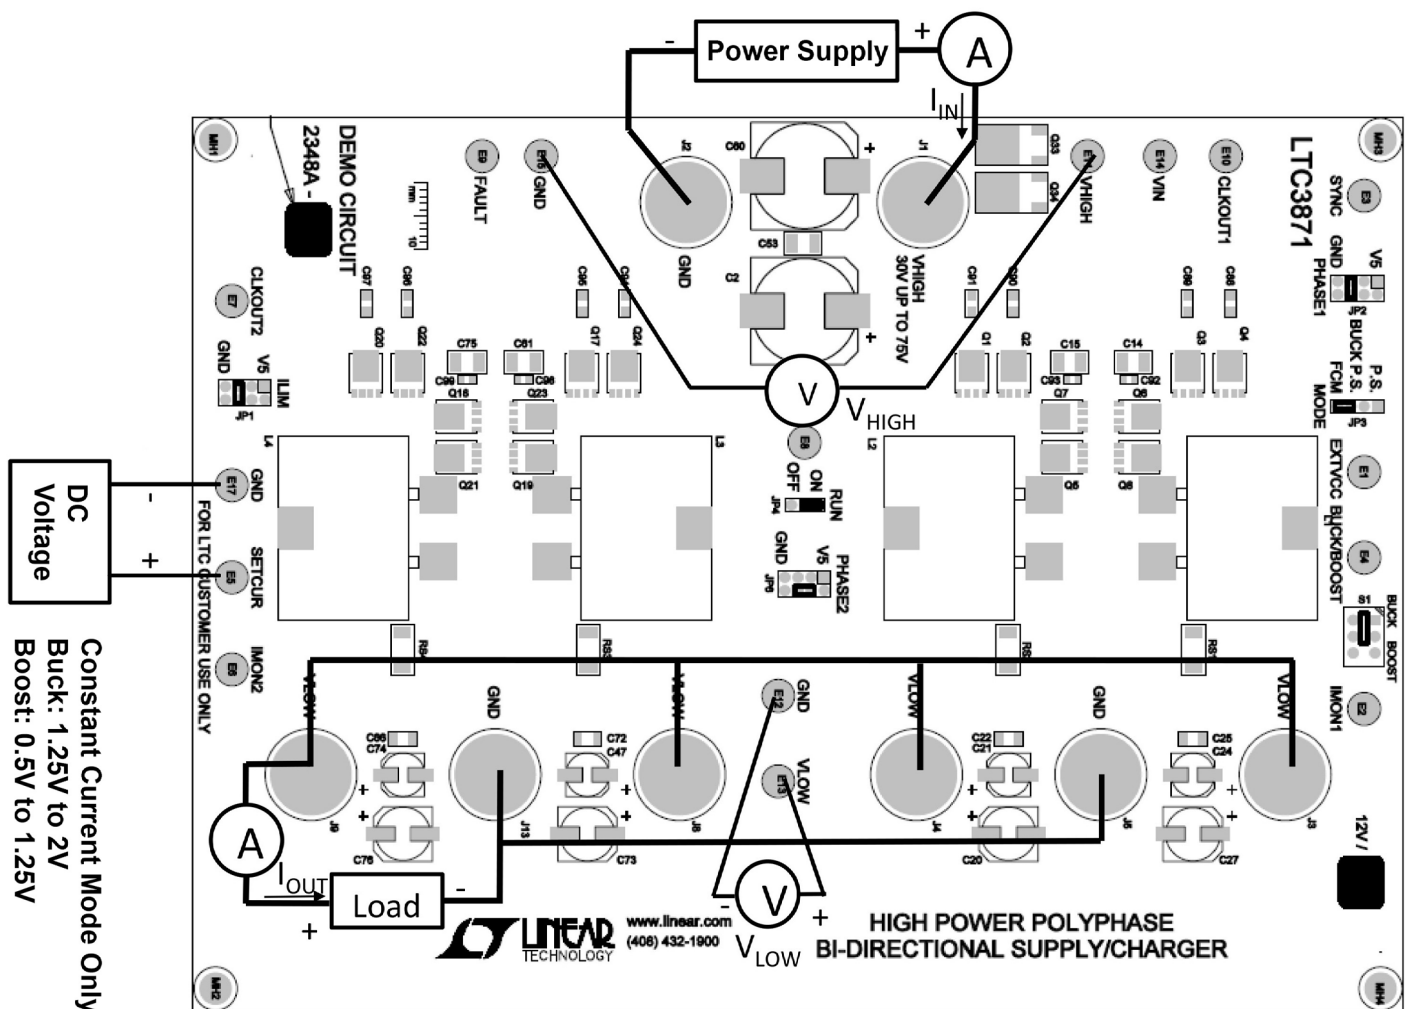

Figure 1. Proper Measurement Equipment Setup (Buck Mode)
Demonstration circuit DC2348A has voltage regulation (CV) and current regulation (CC) modes that can be evaluated. Refer to Figure 1 for proper measurement equipment setup and follow the procedure below: